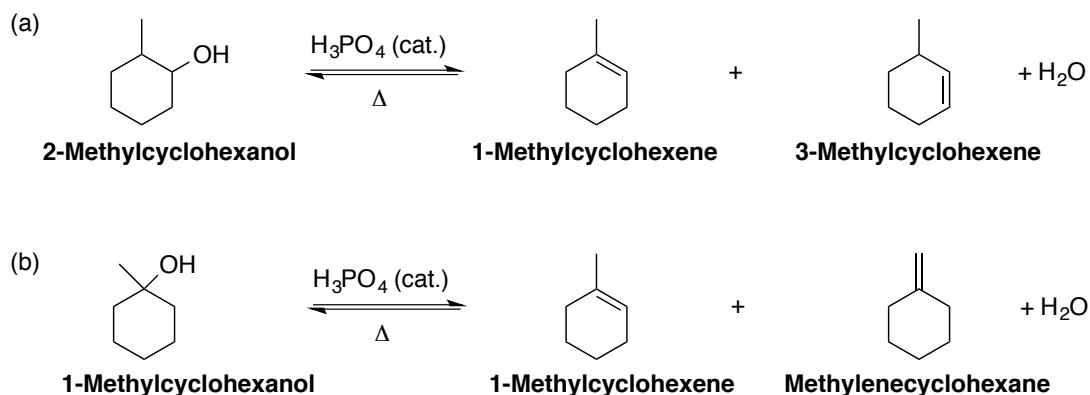

Figure 1. Dehydration of methylcyclohexanols
In this experiment, students will perform the acid-catalyzed dehydration of either **1-** or **2-methylcyclohexanol** (Figure 1). Students are assigned an alcohol starting material at the beginning of lab. The pre-lab questions should address both reactions to be prepared for either. The elimination reactions have two possible regioisomeric products. The major and minor products can be predicted according to Zaitsev's rule, which states that a more highly substituted alkene is more stable and favored. Students use gas chromatography (GC) to analyze the reaction mixture and compare to the retention times of commercially available standards to confirm their hypotheses. In addition, students confirm the presence of an alkene in the product with the potassium permanganate (KMnO_4) chemical test. KMnO_4 is lovingly called the “Barney reaction.” It starts off dark purple and turns brown with the formation of a precipitate (MnO_2). Refer to the McMurry or Klein text for further discussion of the permanganate-mediated oxidative cleavage reactions.